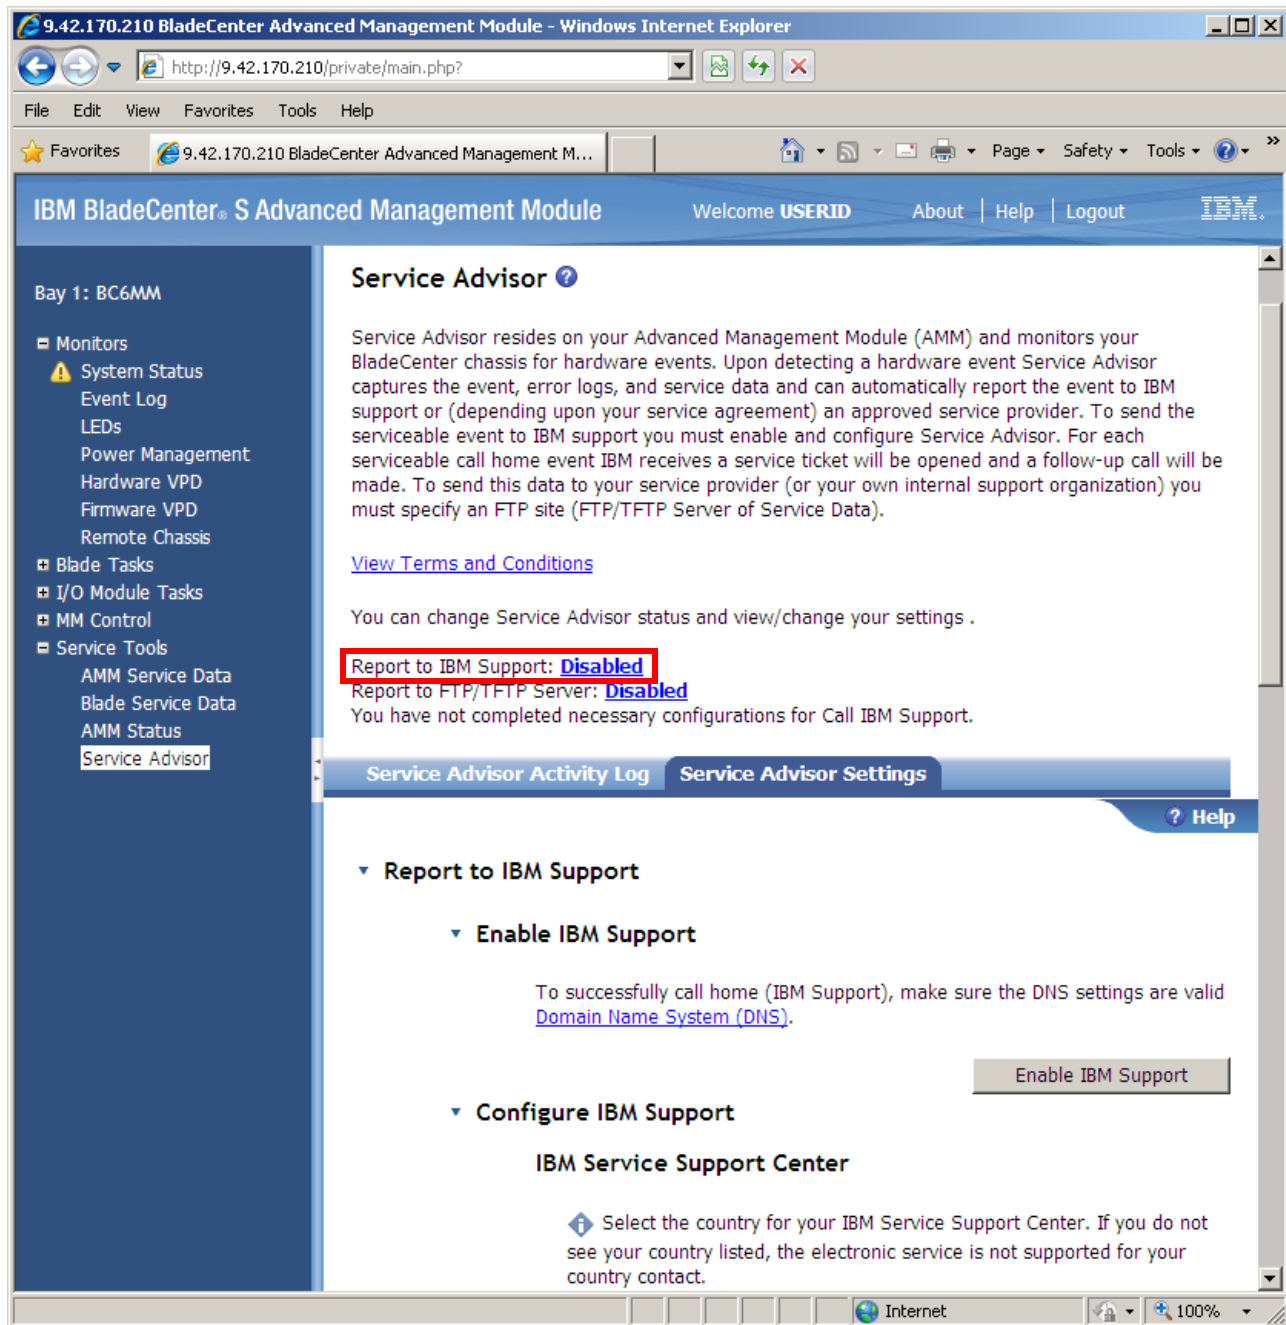

Figure 9-10 Service Advisor settings
4. Click the **Service Advisor Settings** tab, as shown in Figure 9-10 on page 460, and complete all relevant details. Ensure that you select the correct IBM support center for your geographical location. Also, note that the FTP/TFTP Server of Service Data must only be configured if an approved service provider other than IBM provides your hardware warranty.
6. To enable Service Advisor, click the **Service Advisor Settings** tab again and click **Enable IBM Support**. The Service Advisor Disabled status, as shown in Figure 9-10 on page 460, now shows Enabled.